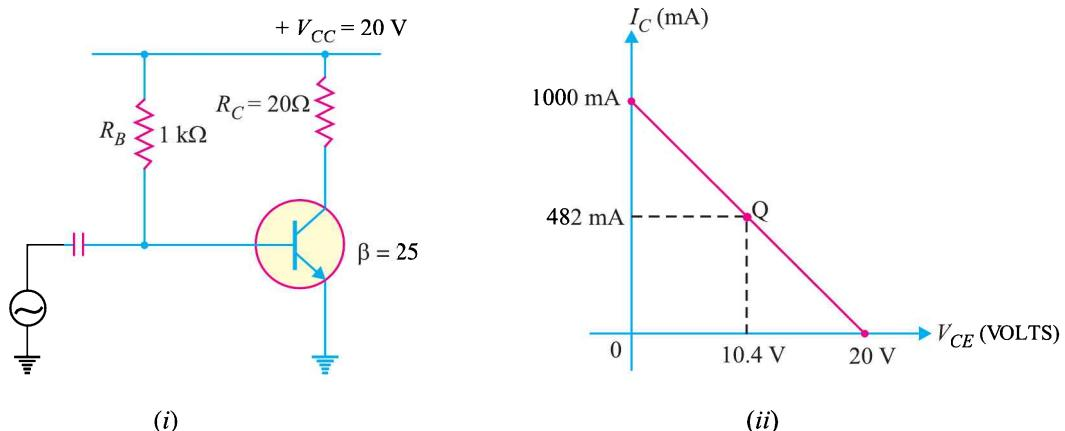

Fig. 12.7
**Example 12.7.** Calculate the (i) output power (ii) input power and (iii) collector efficiency of the amplifier circuit shown in Fig. 12.7 (i). It is given that input voltage results in a base current of 10 mA peak.
**Solution.** First draw the d.c. load line by locating the two end points viz.,  $I_{C(sat)} = V_{CC}/R_C = 20\text{ V}/20\Omega = 1\text{ A} = 1000\text{ mA}$  and  $V_{CE} = V_{CC} = 20\text{ V}$  as shown in Fig. 12.7 (ii). The operating point  $Q$  of the circuit can be located as under :